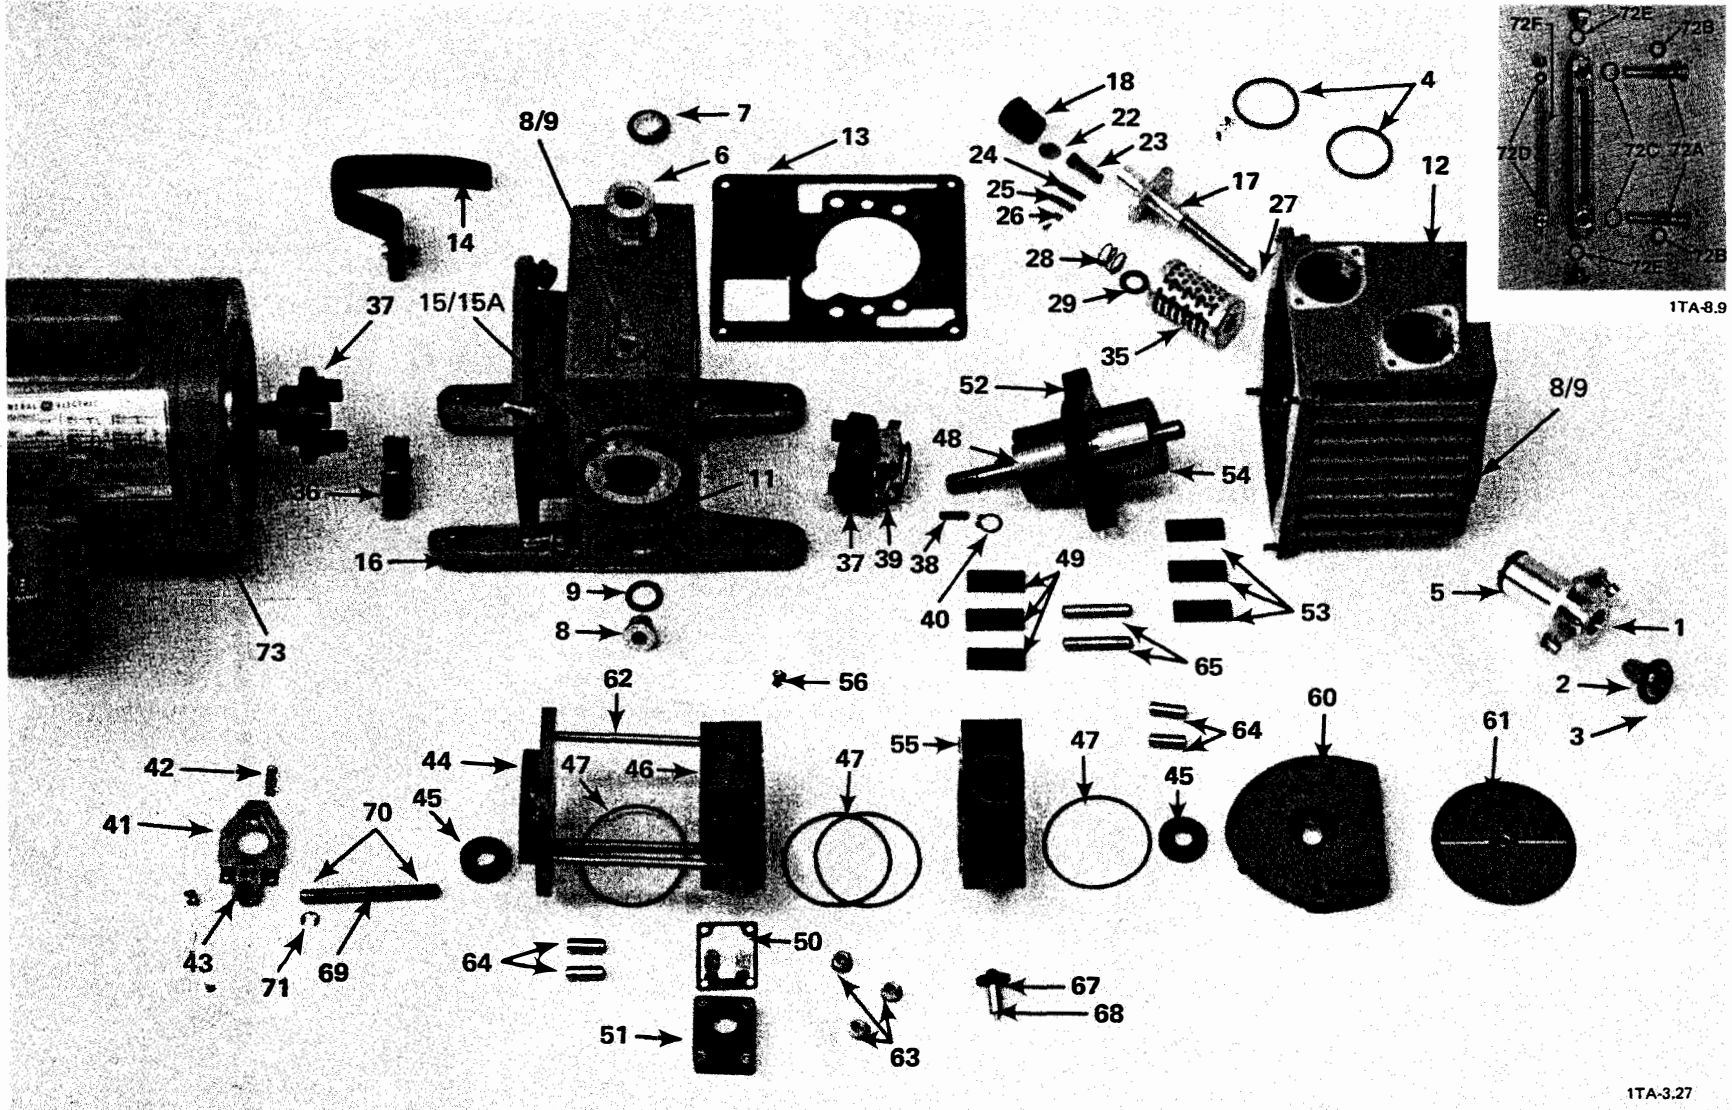

Figure 7-1. Disassembled Pump (D2A Pump Model Shown)
**Use Figures 7-1 and 7-2** to help identify the part that you need. The numbers called out in the figures correspond to the position number listed for each part in the first column of **Table 7-2**. For example, the first column on **Page 58** lists "1" for the intake tube. One **Figure 7-1**, the number "1" is pointing to the photograph of the intake tube.
| Disassembled Pump (D2A Pump Model Shown) (Figure 7-1) .....                            | 56         |